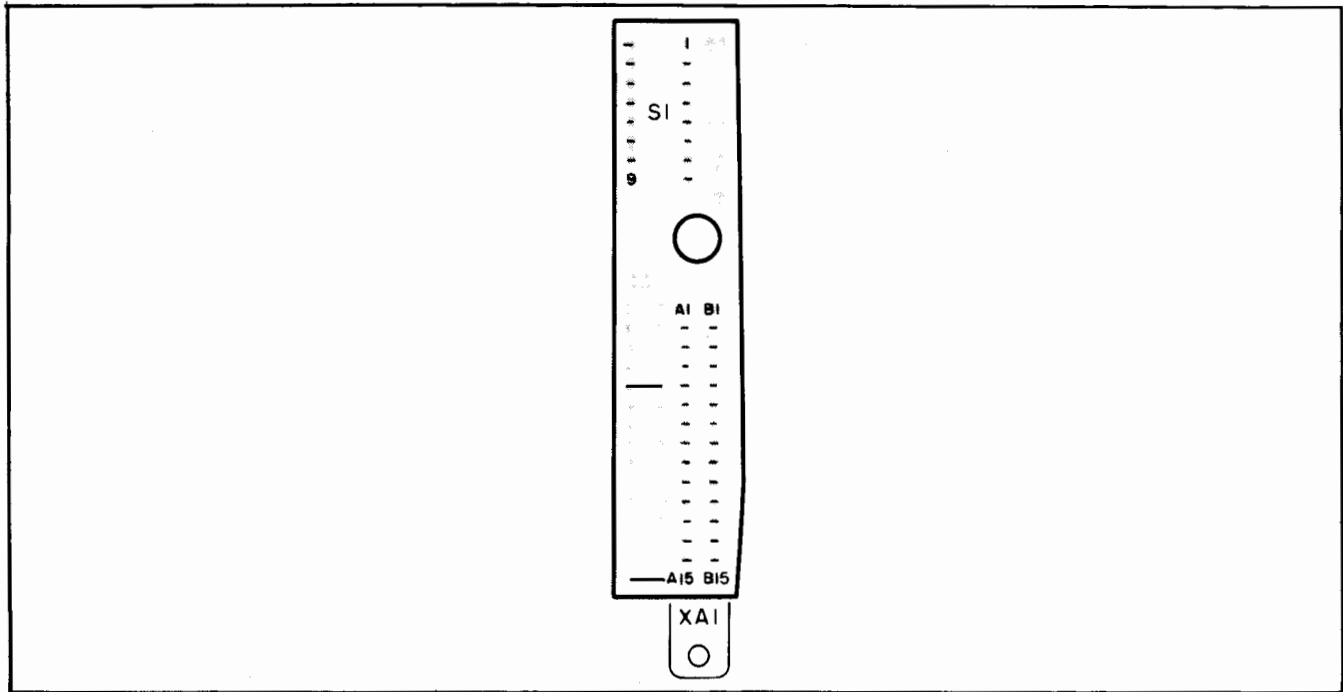

Figure G1-3 Configuration Board
3. Install jumpers across the holes provided in position E and position 5, as shown in Figure G1-3. THERE SHOULD BE NO LINKS IN ANY OTHER POSITIONS.